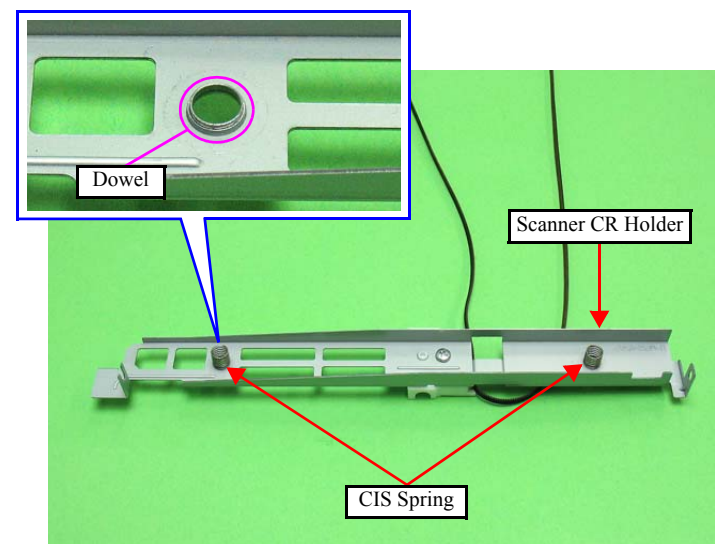

Figure 4-112. Installing the CIS Spring
- Install the CIS springs (x2) to the dowels of the Scanner CR Holder. (See Fig.4-112.)